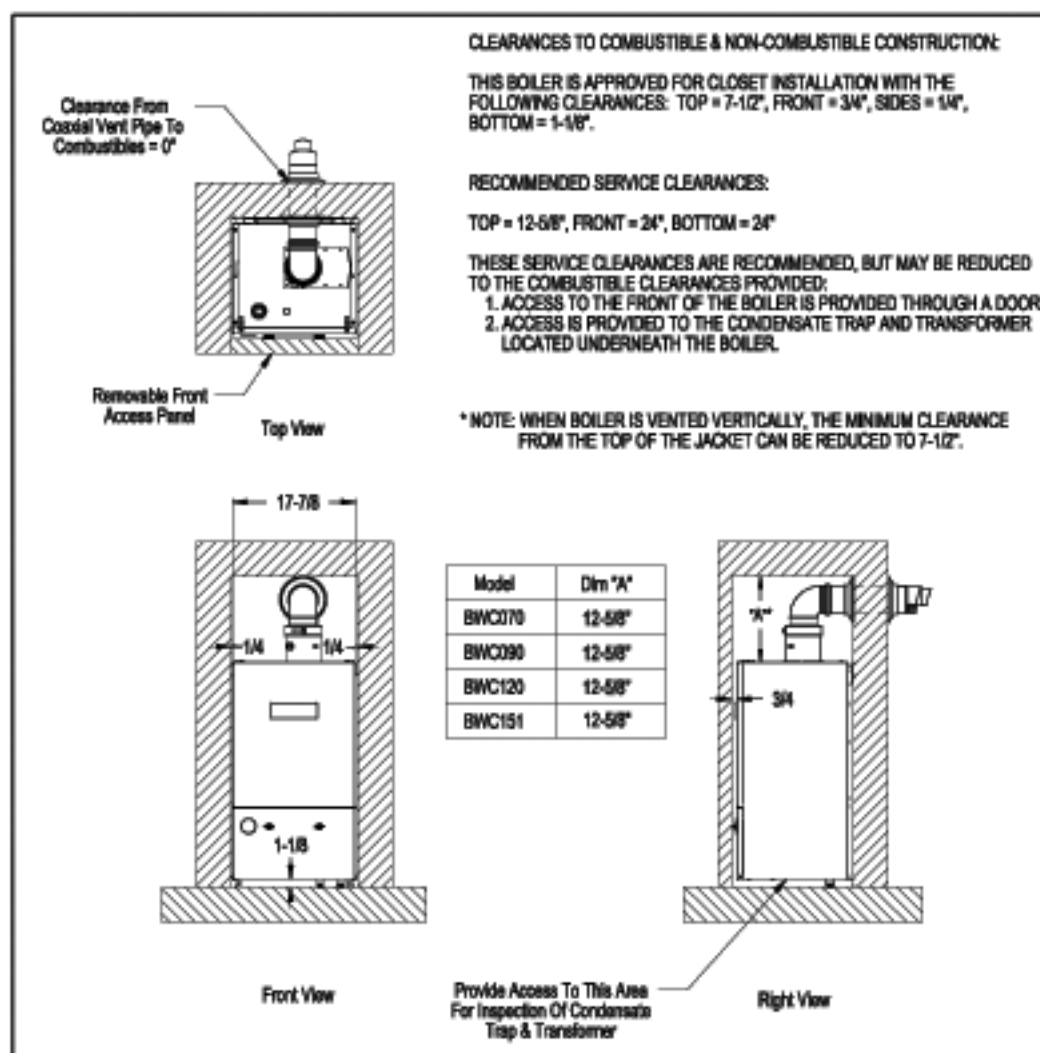

Figure 4.1: Clearances To Combustible Or Non-combustible Material
- 1) Observe the minimum clearances shown in Figure 4.1. These clearances apply to both combustible and non-combustible materials. Observe the minimum clearances to combustibles for vent pipe shown in Table 4.2.
- 2) Note the recommended service clearances in Figure 4.1. These service clearances are recommended, but may be reduced to the combustible clearances provided: